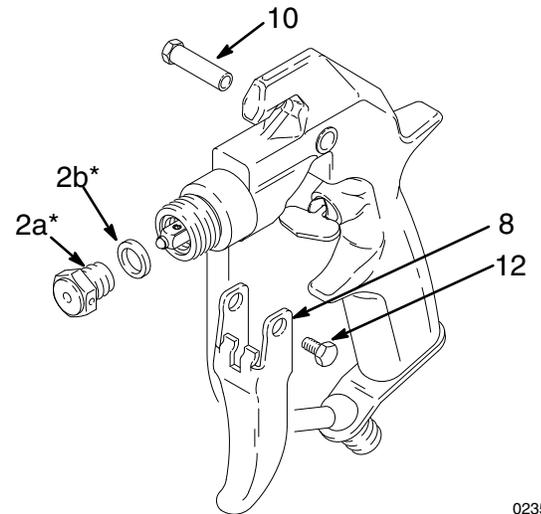

Fig. 6
3. Remove the diffuser/seat (2a\*) and gasket (2b\*). Remove the screw (12), pivot pin (10), and trigger (8). See Fig. 6.